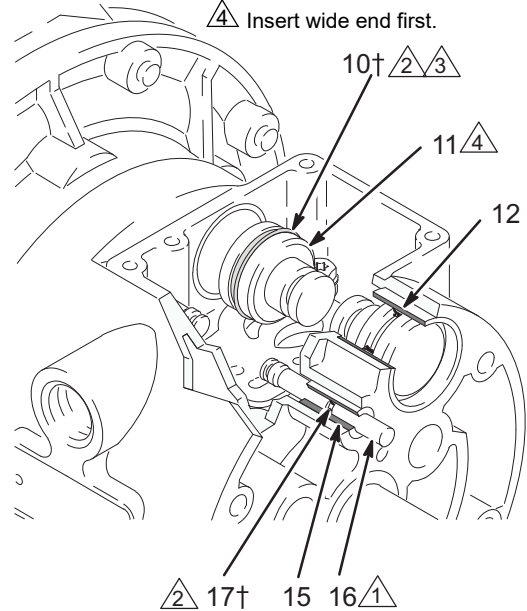

Fig. 10
4. Pull the two actuator pistons (11) out of the bearings (12). Remove the u-cup packings (10) from the pistons. Pull the pilot pins (16) out of the bearings (15). Remove the o-rings (17) from the push pins. See Fig. 10.
6. Inspect the bearings (12, 15) in place. See Fig. 10. The bearings are tapered and, if damaged, must be removed from the outside. This requires disassembly of the fluid section. See page 19.
4. Install an o-ring (17=) on each pilot pin (16). Grease the pins and o-rings. Insert the pins into the bearings (15), **narrow** end first. See Fig. 10.
5. Install a u-cup packing (10=) on each actuator piston (11), so the lips of the packings face the **narrow** end of the pistons. See Fig. 10.
6. Lubricate the u-cup packings (10=) and actuator pistons (11). Insert the actuator pistons in the bearings (12), **wide** end first. Leave the narrow end of the pistons exposed. See Fig. 10.